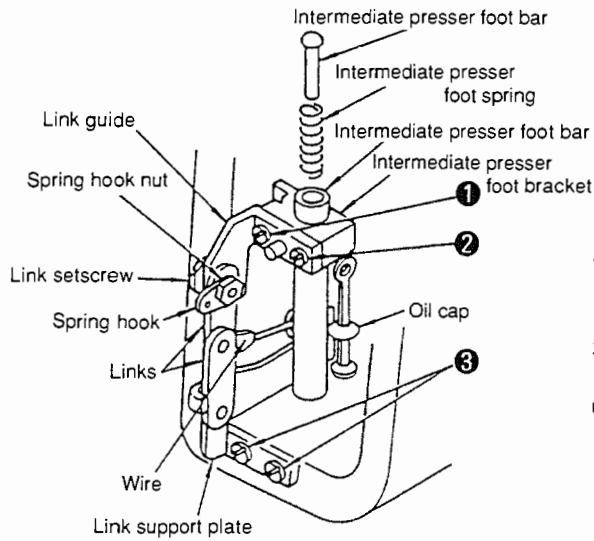

Fig. 5-19-1
- 11) When the wiper is actuated, the oil cap should not come in contact with the link support plate. (Fig. 5-19-1)
At this time, check that the oil cap does not come in contact with the link support plate when the wiper is actuated by hand. (Figs. 5-19-1, 5-19-7)